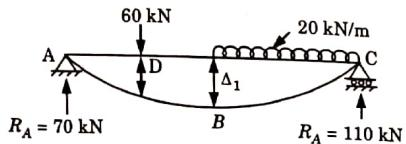

Fig. 6. Deflected shape of basic determinate beam due to external loads.
2. Basic Determinate Structure : To obtain basic determinate structure removing redundant force  $R_B$ . The resulting determinate structure is a simple supported beam ABC as shown in Fig. 6.